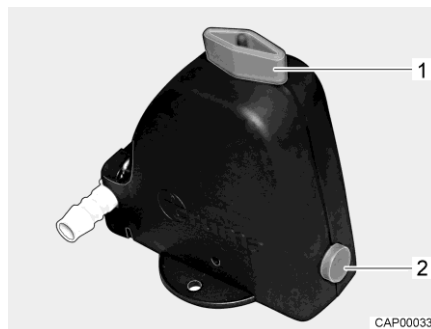

Fig. 260 Safety/drainage valve (Truma)
- Open the safety/drainage valve (Truma). To do this turn the knob (Fig. 260,1) parallel to the safety/drainage valve. The push button (Fig. 260,2) jumps out.